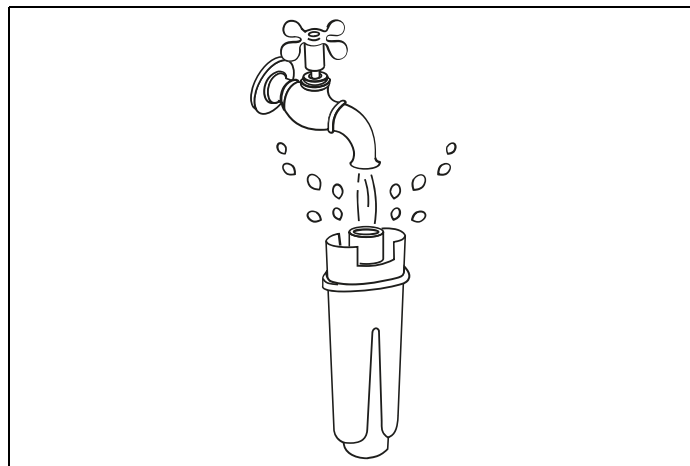

Fig. 61
- 1) **Fill filter with water until it's completely filled** (Fig. 61): To activate the filter, run tap water through the hole in the filter as shown in the figure until water comes out of the openings at the side for more than a minute. Press  **NEXT** ;